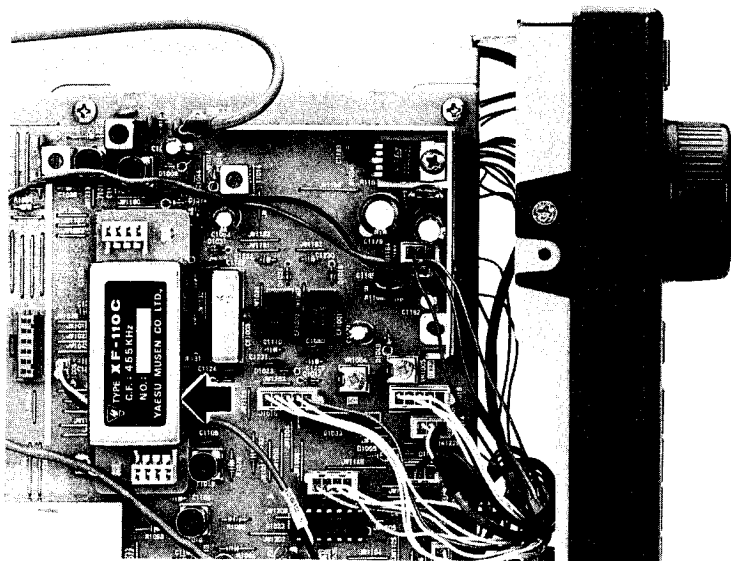

Fig. 5 Filter Installation
- When the filter unit has been mated to the connector pins, gently press down by the ends until the nylon mounting stand-offs push through the holes in the filter unit board and expand to lock it in place (Figure 5). You may now replace the cover.